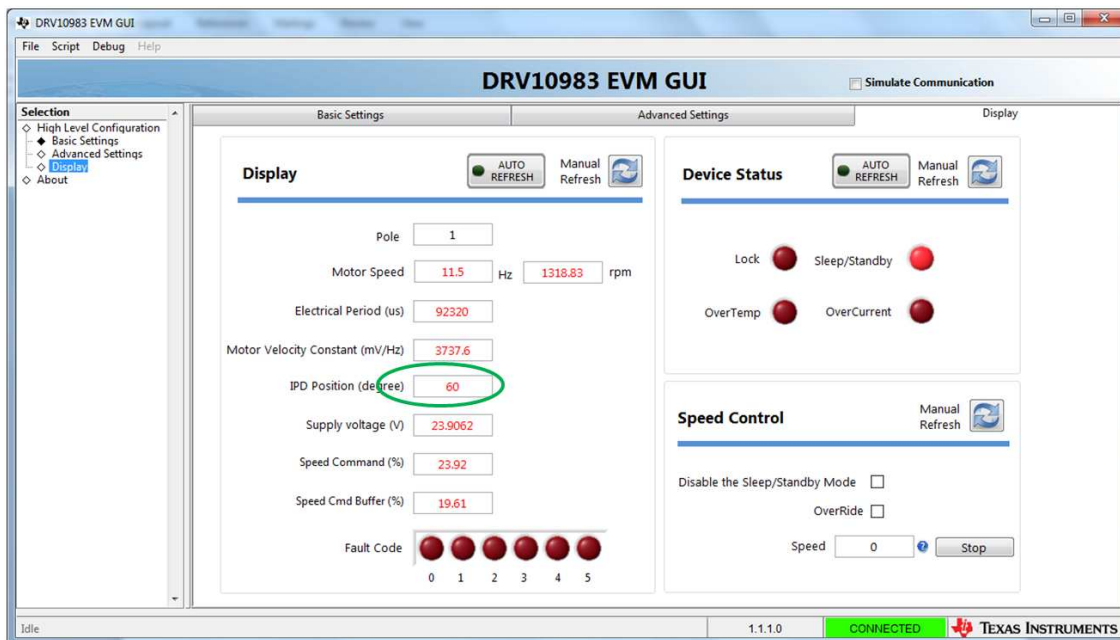

Figure 28. DRV10983x/75 EVM GUI Screenshot
4. Turn ON motor commutation and check IPD position in display tab by pressing manual refresh. 'IPD Position (degree)' shows 60 (see Figure 28). Now turn OFF commutation.